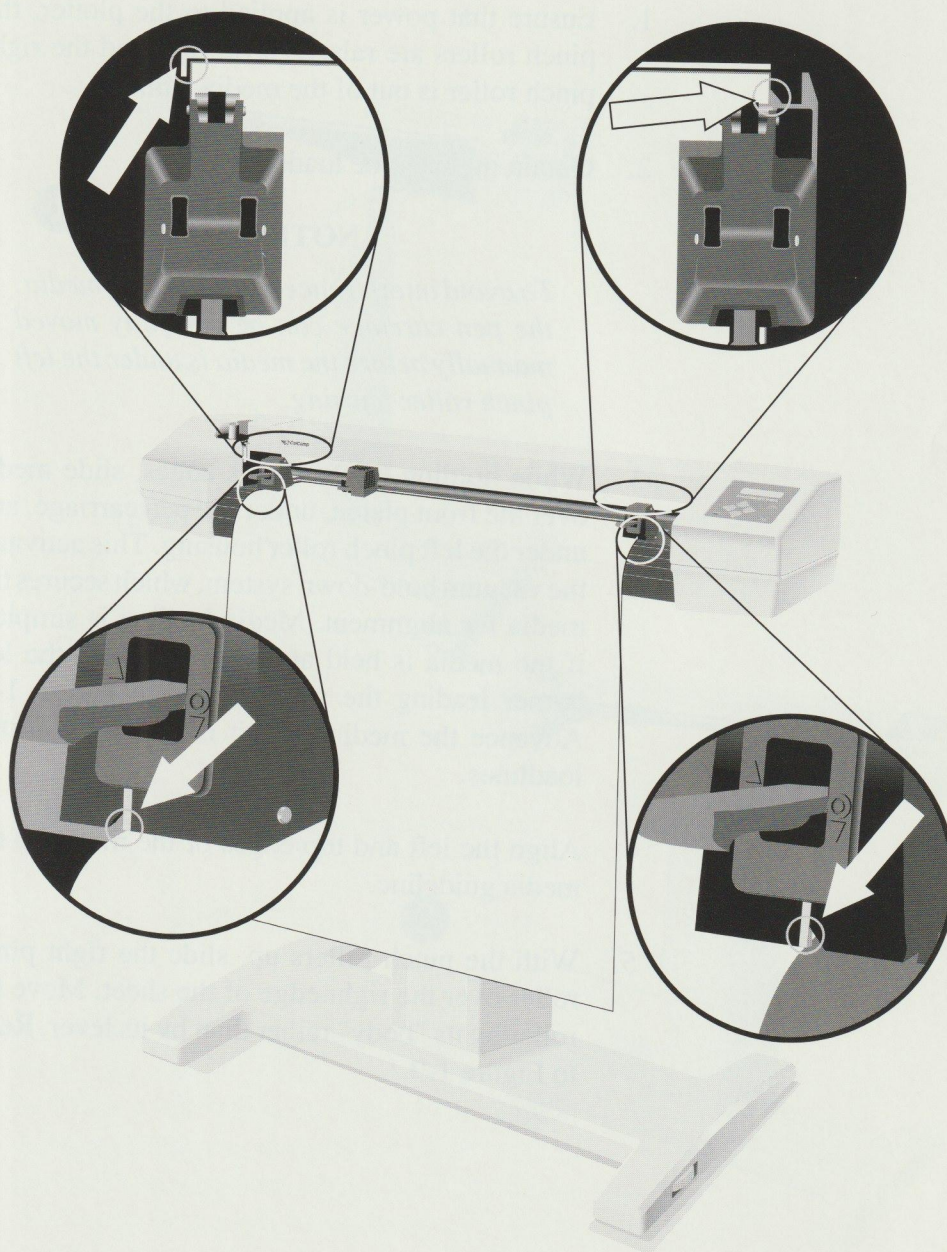

Figure 1-7. Media Loading Landmarks
Plot media can be any of the material specified in Chapter 5. However, for this procedure, use a sheet of bond media or whatever is handy. Refer to Figure 1-7 for the media loading landmarks. To load plot media, follow the procedure on page 1-18.
6. Position the right pinch roller such that the media loading landmarks are at the edge of the media. Refer to Figure 1-7.